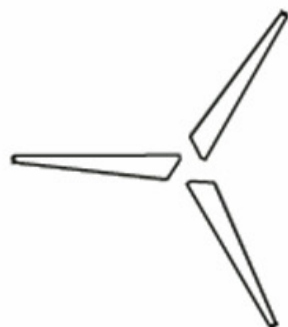

Fig. 5
**1h.** The blades should look like the ones shown in Fig. 5. Pick the three best ones of the batch and let's move to the next step, making the tail.